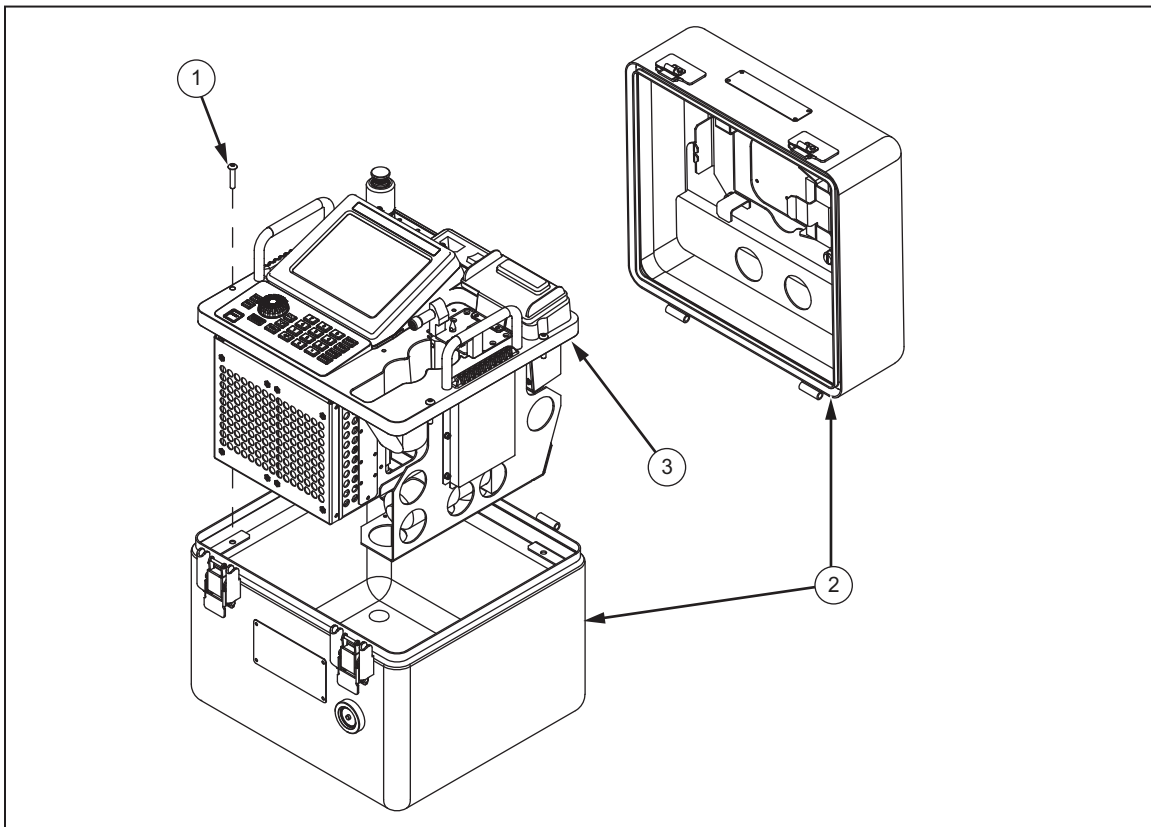

Figure 4-3. Controller Case and Chassis
This procedure supplies instructions on how to remove the chassis to gain access to the parts and subassemblies inside the case. Use the following instructions and reference Figure 4-3 to remove chassis (3) from the case (2).
Remove the chassis and control panel as follows (see Figure 4-3):
Reinstall the chassis and control panel as follows (see Figure 4-3). Skip step 1 if the control panel was not removed.
- a. Connect the keypad ribbon cable (④) and feed the display ribbon cable (⑤) and the backlight power cable (⑥) through the control panel (②).
- b. Carefully put the control panel (②) on top of the chassis (③).
- c. With the display propped open, connect the display ribbon cable (⑤) and the backlight power cable (⑥) on the rear of the display.
- d. Connect the atmosphere vent tube (⑪) on the control panel (②).
- e. Install the four screws that secure the supply tube-weld (③) and the output tube-weld (⑨) to the manifold.
- f. Install the four screws and washers (④) that secure the handles to the control panel (③).
- g. Install the six screws (①) that secure the control panel (②) to the chassis (③).
2. Install the chassis into the case as follows (see Figure 4-3):
- a. Use the handles to put the chassis (③) into the case (②).
- b. Install the eight control panel assembly screws (①).